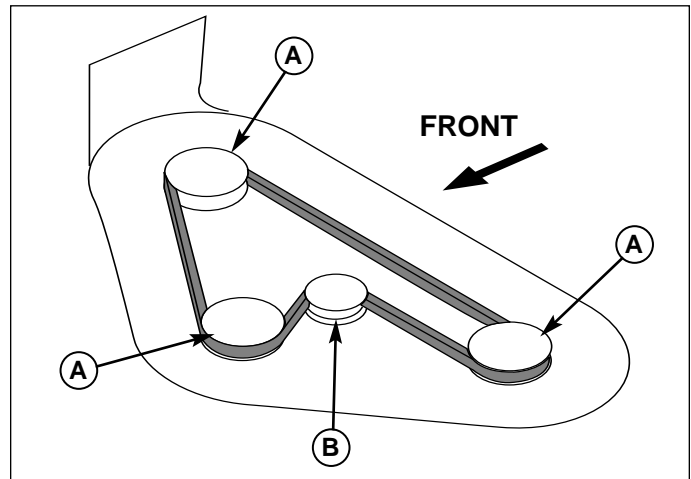

Figure 44. Mower Deck Drive Belt Routing All Models
6. Install a new belt as shown in Figure 44. Make sure that V-side of belt runs in arbor pulley (A) grooves and flat side of belt runs against idler pulley (B).